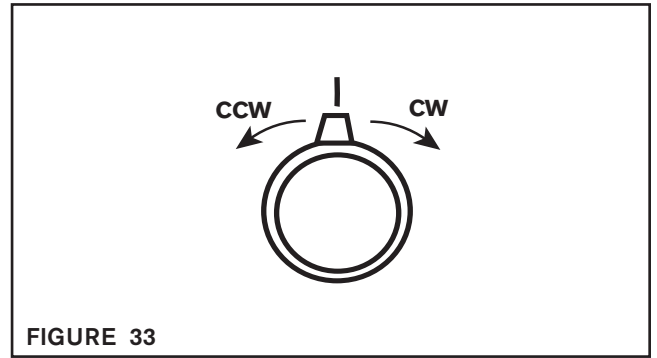

FIGURE 33
3. Manually adjust the Offset by rotating the potentiometer knob CCW (left) or CW (right) of its middle position (See Figure 33).
**NOTE:** The Offset value is zero with the potentiometer set to its middle position as shown in Figure 33.